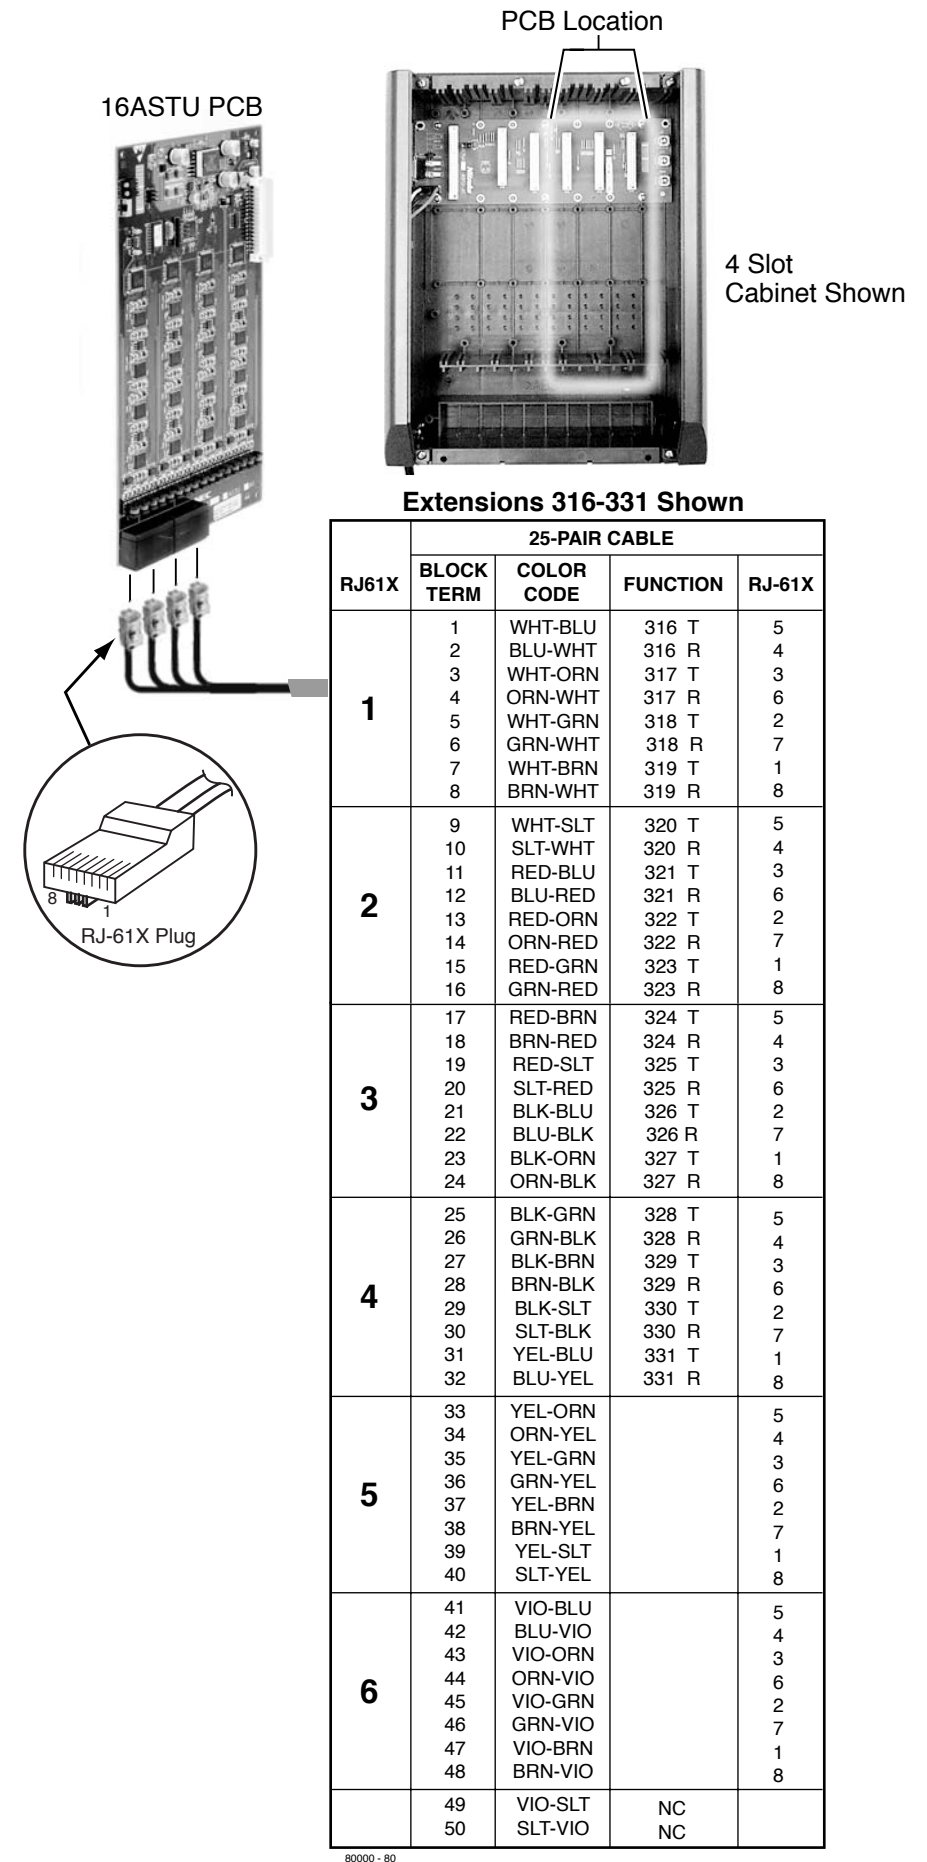

Figure 2: Connecting to the 16ASTU PCB
3. Connect the Installation Cable modular jacks to the 16ASTU PCB as shown in Figure 2 at right.